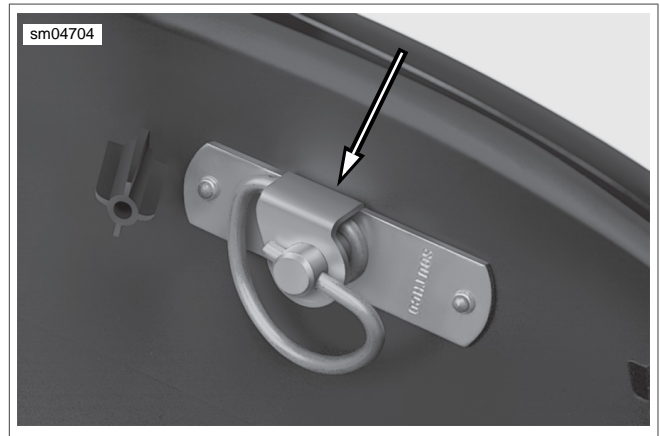

Figure 2-14. Spring Latch
- Drill out two rivets using a 13/64 inch drill bit. Remove spring latch. See Figure 2-14.
- Hold spring latch at bottom of saddlebag lid with the flat side facing opposite the hinges. See Figure 2-14.